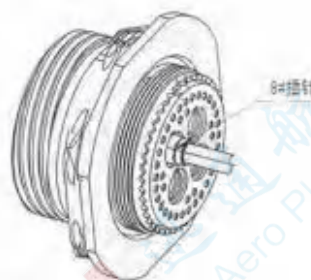

图3.4 接触件压入连接器内部
- 2) Maintain the direction unchanged and press the contact into the connector until a distinct "click" sound is heard, indicating that the contact is fully seated, as shown in Figures 3.4 and 3.5.